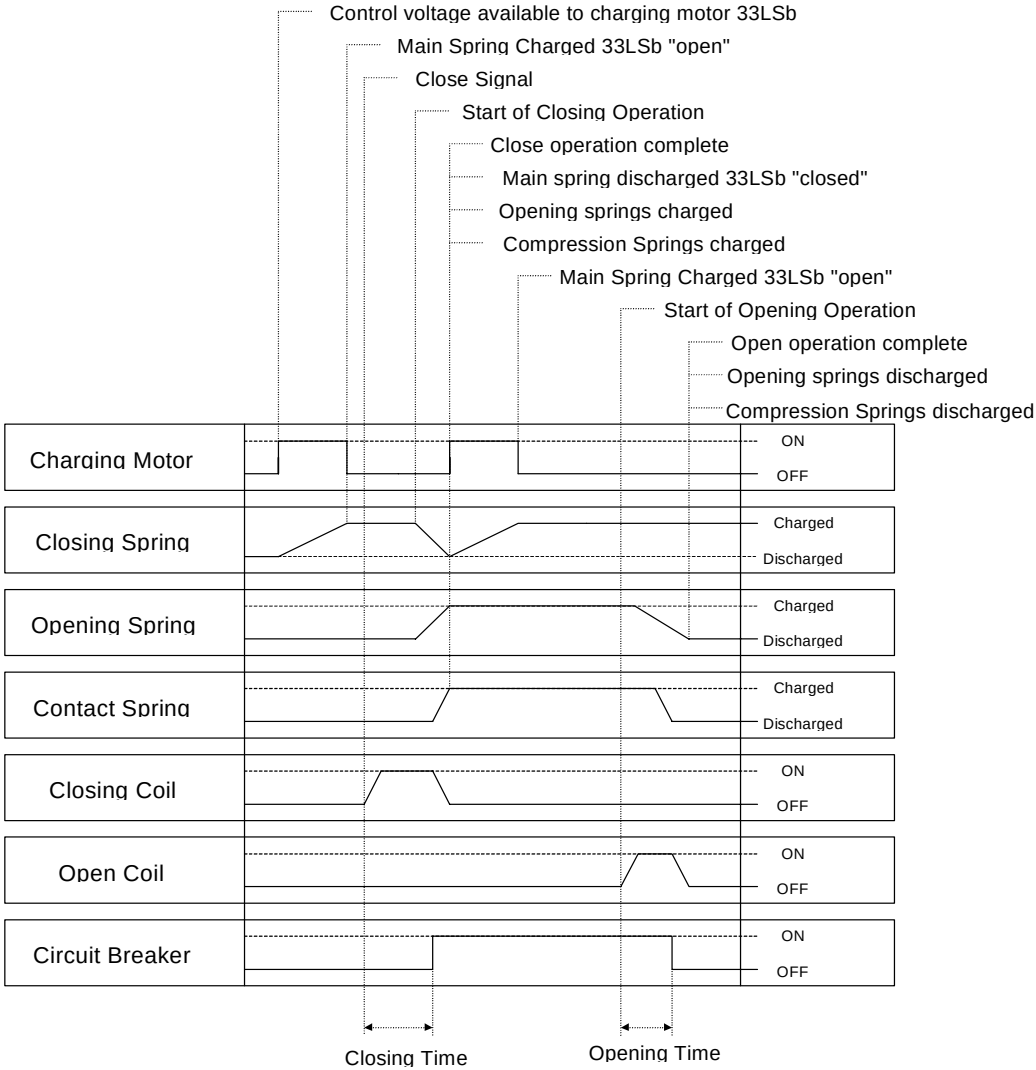

Figure 3: Sequence of Operation
ADVAC™ circuit breakers are available with two control packages. The standard package (see Appendix D) includes charge, close, and open functions, and 4a and 4b auxiliary contacts for customer use. The optional package (see Appendix D) adds to the standard package five "a" and four "b" auxiliary contacts for customer use as well as an optional second open coil and/or under voltage (UV) open/trip device if required. Refer to wiring diagrams in Appendix D and Figure 3: Sequence of Operation.